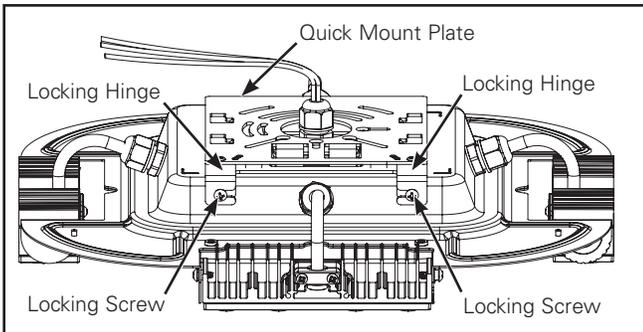

Figure 1.
1. Loosen (do not remove) the two locking screws (Figure 1). Pivot both locking hinges out to the left/right sides until they stop.